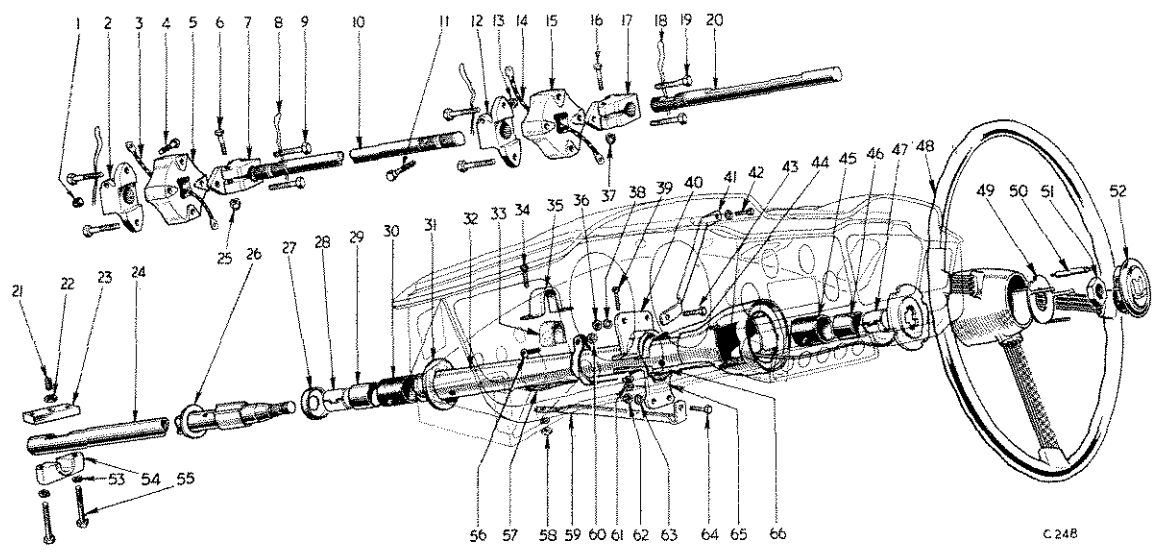

Fig. 12. Steering Column Details
KEY TO FIG. 12
### Removal (Fig. 12)
Insert the horn contact plunger (50) into the steering wheel boss and fit the horn button assembly (52) (Fig. 12).